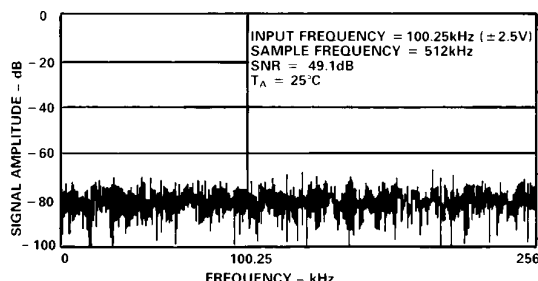

Figure 8. AD7821 FFT Plot
Figure 8 shows a 2048 point FFT plot of the AD7821 with an input signal of 100.25 kHz. The SNR is 49.1 dB. It should be noted that the harmonics are taken into account when calculating the SNR. The theoretical relationship between SNR and resolution (N) is expressed by the following equation: